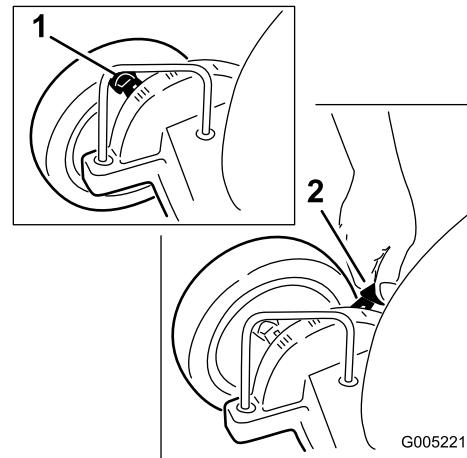
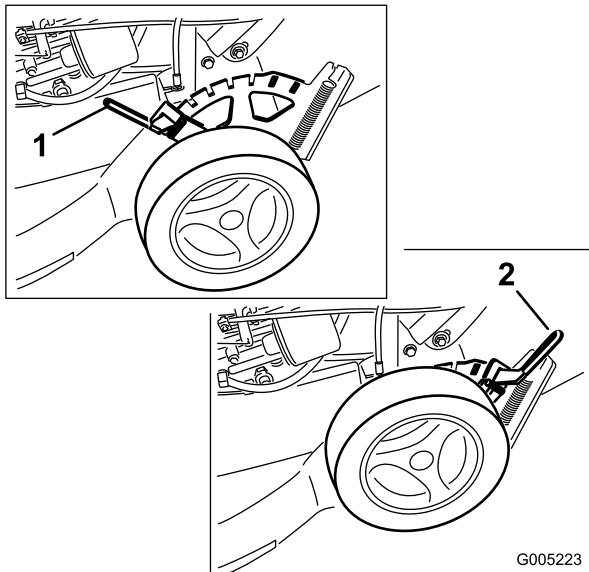

Figure 16
Figure 17
1. Pull each of the front wheel height adjustment levers toward the wheel (Figure 16) and move it to the desired setting.
The front wheels are adjusted individually with a wheel height adjustment lever (Figure 16). The rear wheels are adjusted together with a wheel height adjustment lever located above the left rear wheel (Figure 17).
1. Pull the rear wheel height adjustment lever out and move it to the desired setting (Figure 17).